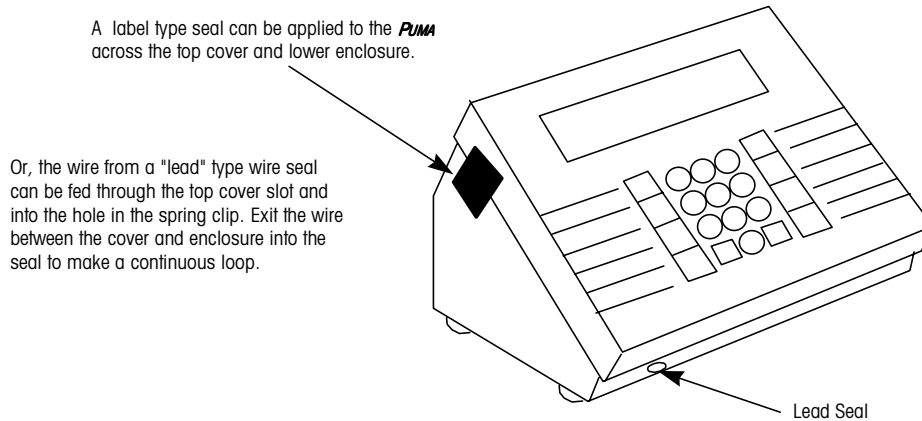

Figure 3-a: Weights and Measures Seal
4. If a Weights and Measures seal is required, refer to Figure 3-a on the following page.
The *PUMA* terminal provides two methods of sealing for Weights and Measures, as shown in Figure 3-a.